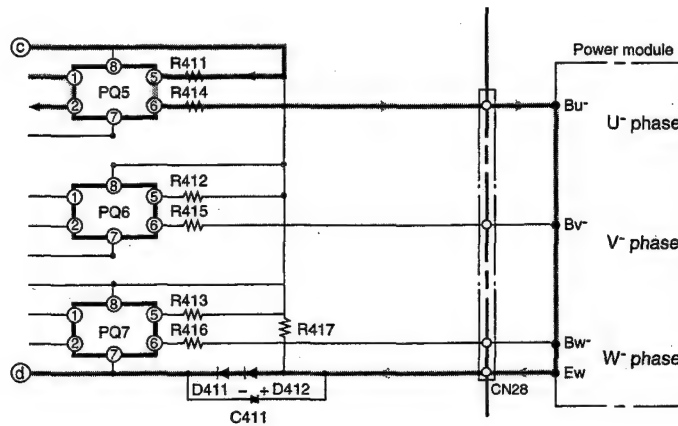

Fig. 7-4
- Fig. 7-4 shows the lower arm drive circuit.
- When pin ② of the micro computer goes "HI" → "LO", a photocoupler between PQ5 pins ① and ② turns on and current flows to terminal ③ → R411 → PQ5 → R414 → power module's BU- terminals → Ew- terminals → D412 → D411 → terminal ④ and drives the lower arm transistors. (Fig. 7-4)
- The signals which turn on or off according to the position detection signals are output from pins ②⑥⑦⑧ of the micro computer in the same way as in the upper arm drive circuit and are input to pins ② of photocouplers PQ5-PQ7.